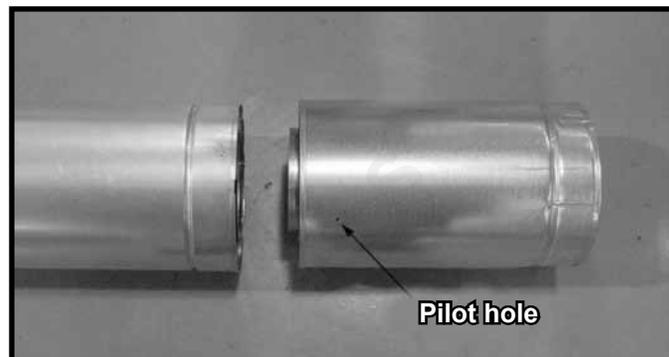

Figure 38 Slip Section Pilot Holes
- Slide the inner flue of the slip section into the inner flue of the pipe section and the outer flue of the slip section over the outer flue of the pipe section. See Figure 38.